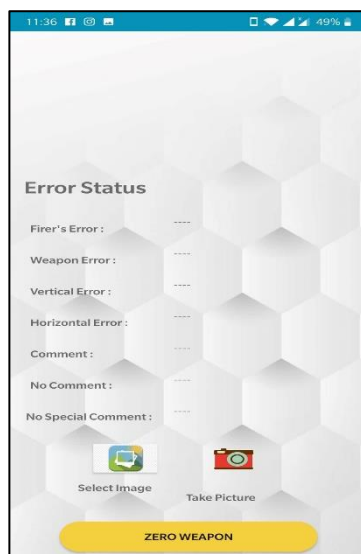

Figure 2.7 Android App Error Status
- The firer can tap on the Process Image icon of profile activity (Figure 2.7) to go forward to select image and calculate MPI.
- In the error status activity (Figure 2.7), the firer